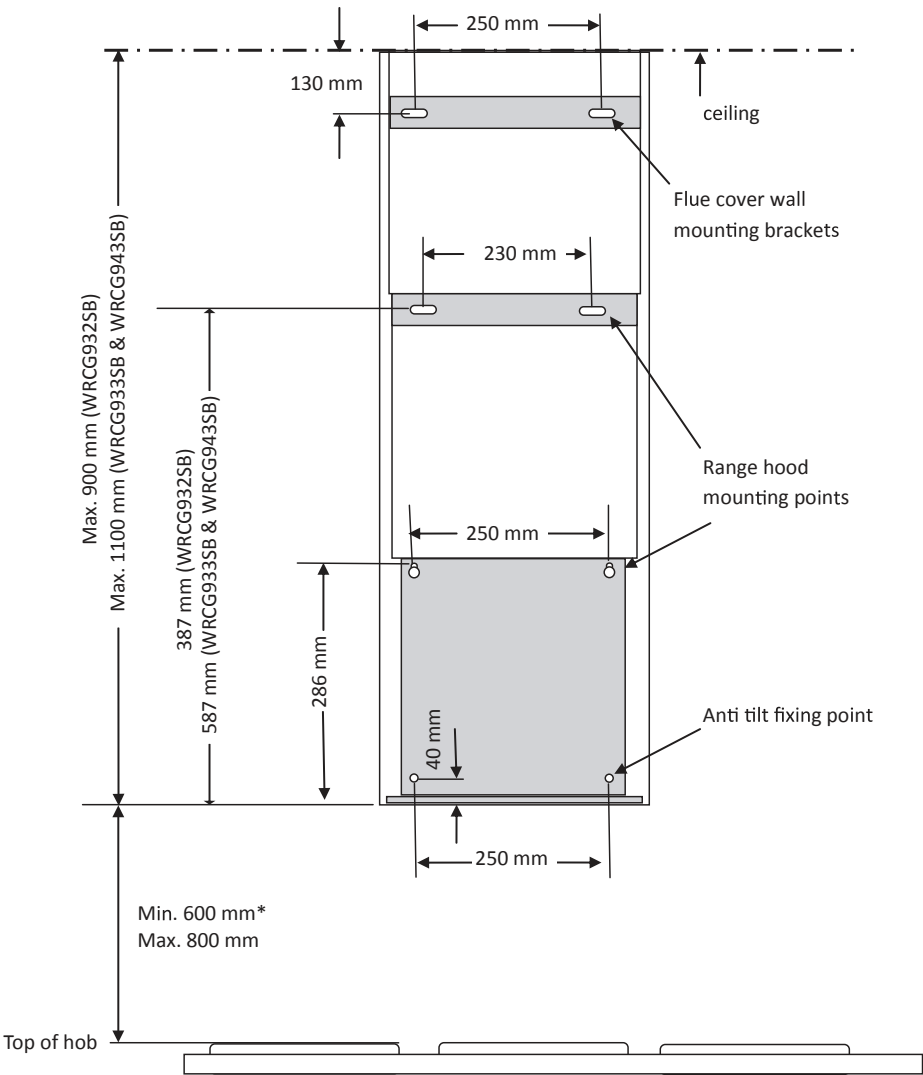

Fig. 7
6. Hang the body hood on the mounting screws then secure at the anti-tilt locations as indicated in Fig. 7 & 8.